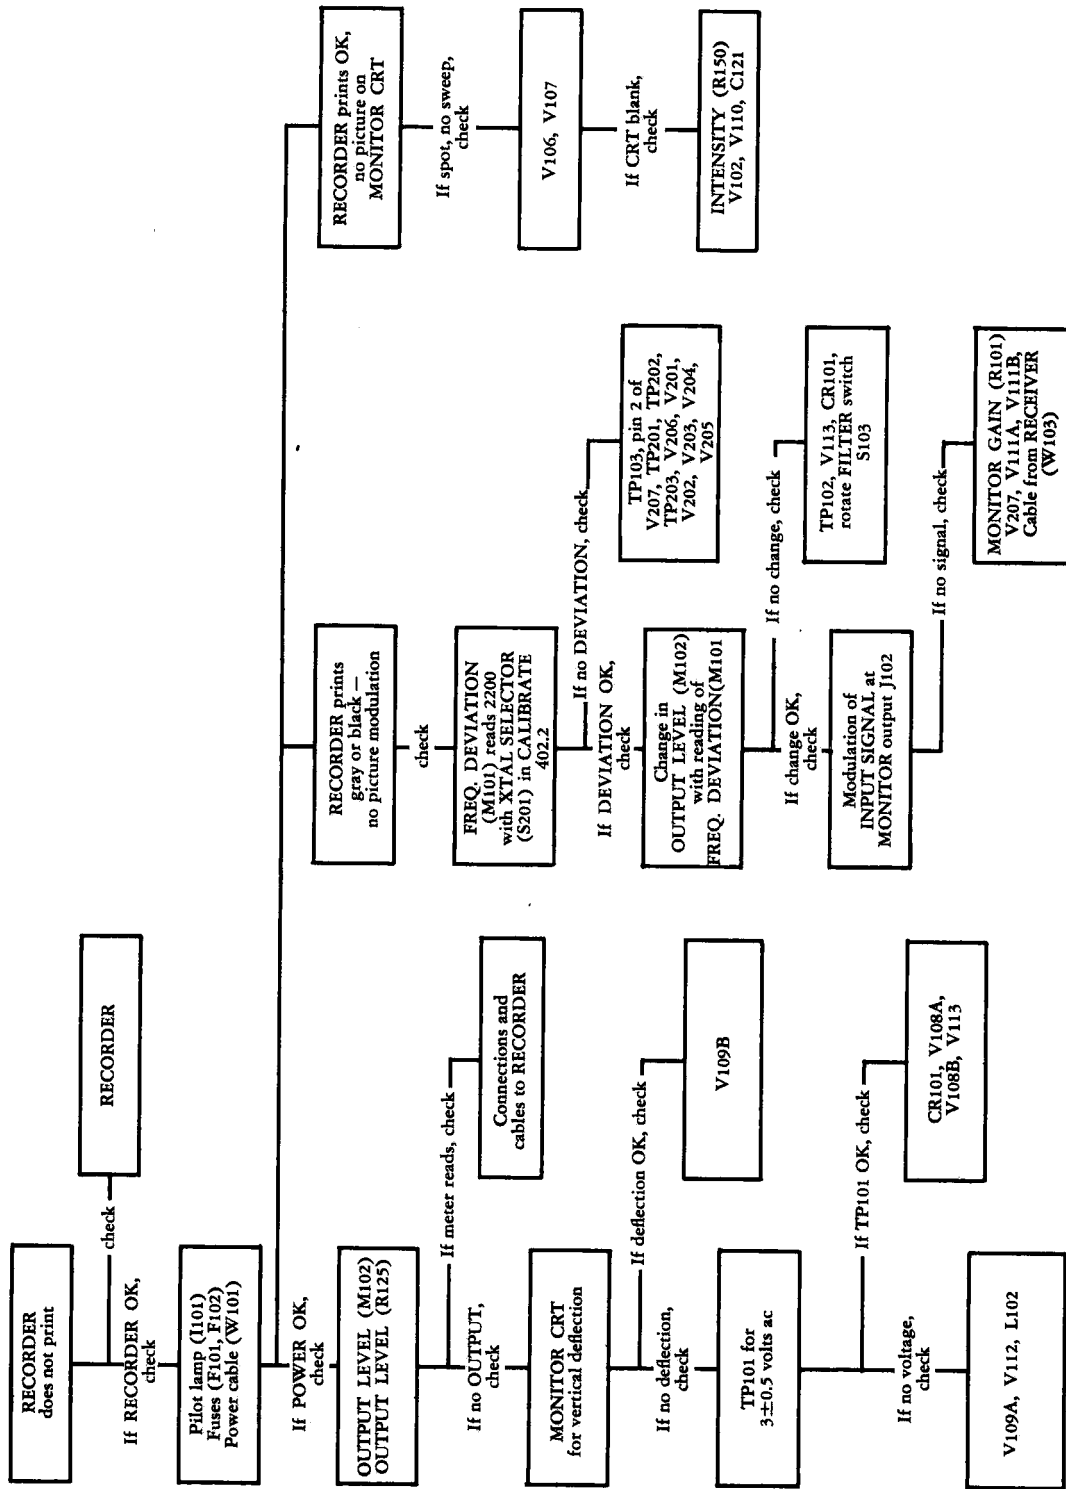

Figure 7-2. Trouble-shooting Chart
(1) The trouble-shooting chart, Figure 7-2, will assist in locating the section of the unit which is at fault.
(2) CIRCUIT CONSTANTS.